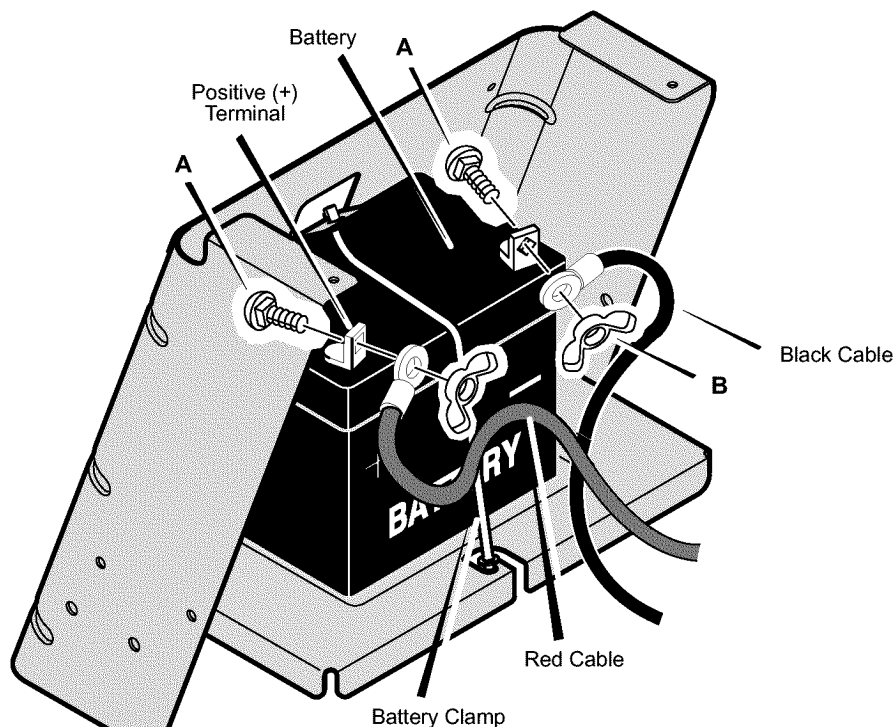

Figure 1
2. Check the top of the battery for the location of the **battery date** (Figure 1).
2. Fasten the **red cable** to the **positive (+) terminal** with the fasteners as shown (Figure 1).